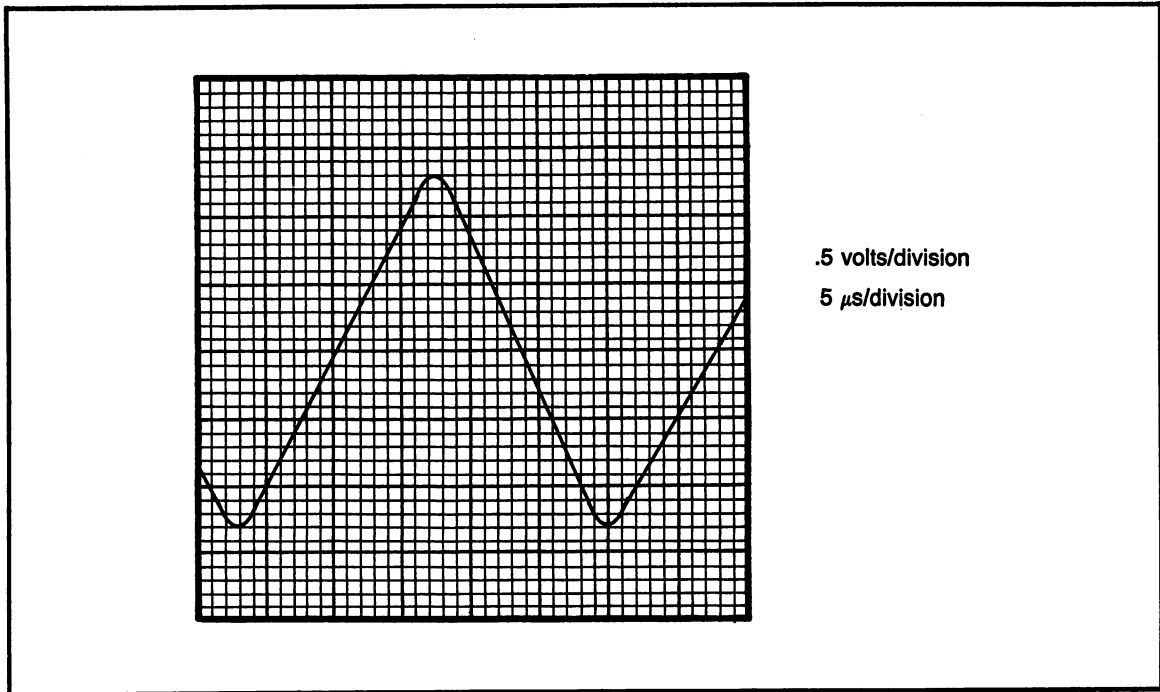

Fig. 11-18. Problem 34: .5 volts/division; 5 μ s/division.
- (34) Figure 11-18; a) p-to-p voltage b) frequency